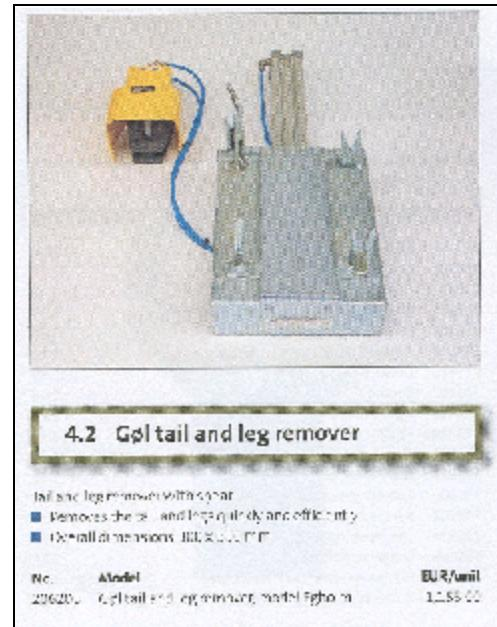

Figure 4: Tail and Leg Remover
- **Tail and Leg Removers:** The Tail and Leg Removers are used to cut off the mink's tail and legs prior to skinning. Figure 4 provides a picture of this type of equipment.